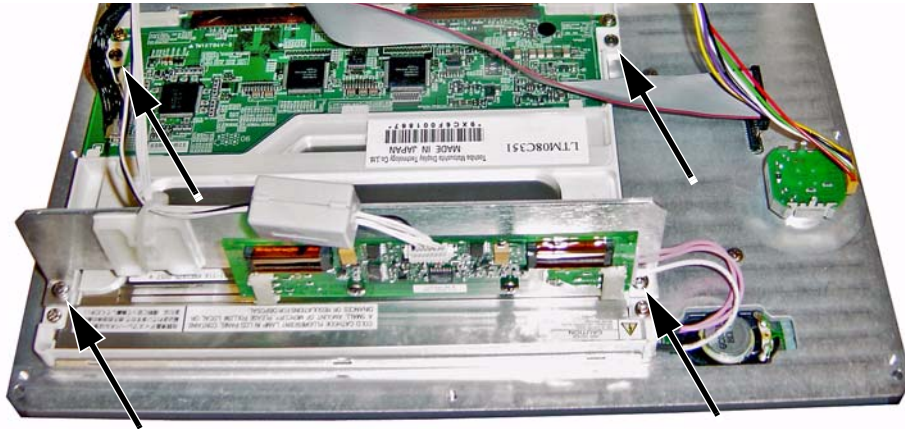

Figure 5-27. Front Panel – LCD Attachment Screws
3. With the front panel face down, remove the upper 2 screws that attach the backlight driver PCB support bracket to the front panel. These 2 screws also attach the LCD to the front panel. Lift out the support bracket with the backlight driver PCB still attached (refer to Figure 5-27).
4. Remove the 2 screws that attach the lower edge of the LCD to the front panel (refer to Figure 5-27).